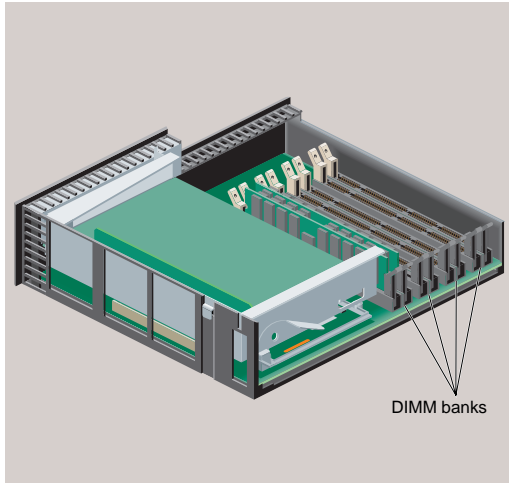
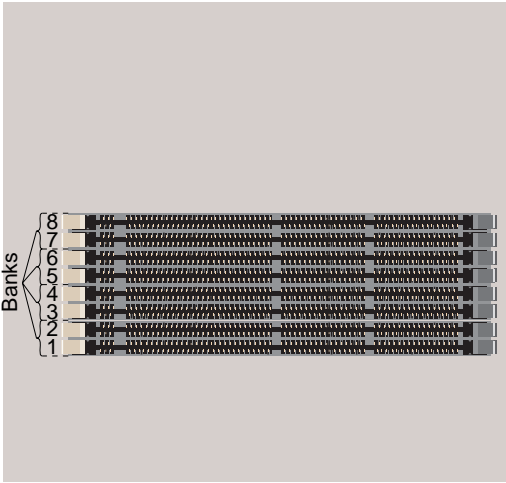

Figure 2-7 Locating the DIMM Banks
Figure 2-8 Top Down View of the DIMM Banks
3. Familiarize yourself with the memory (DIMM) banks (Figure 2-7) and (Figure 2-8). There are eight sockets, numbered 1 through 8. Two sockets form a bank.